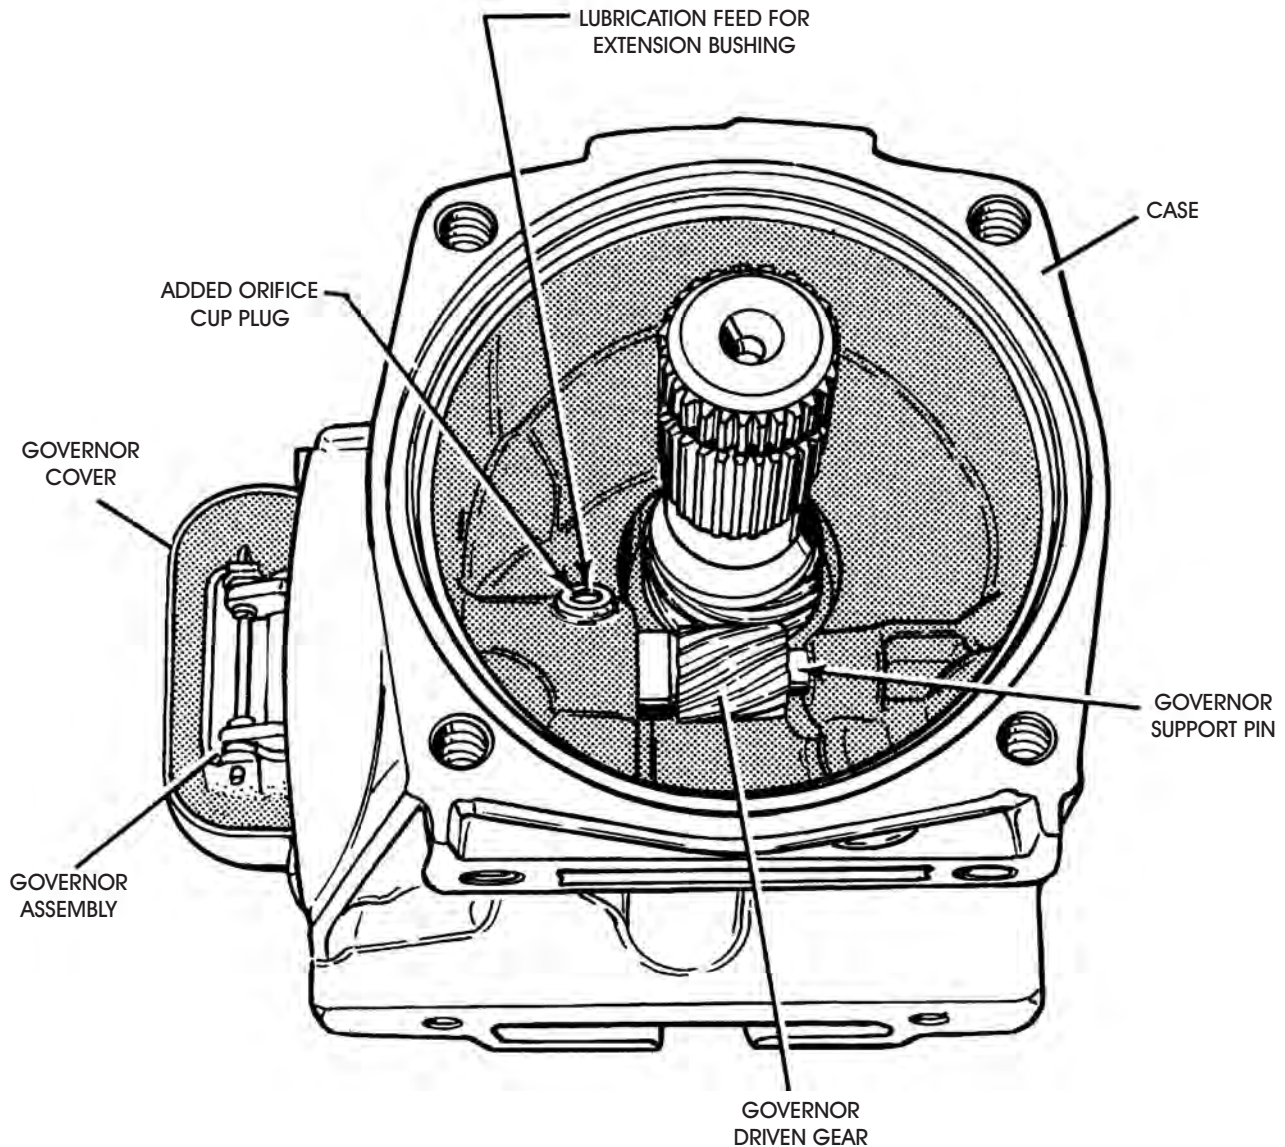

Figure 21
- (3) **TRANSMISSION CASE** - Orifice cup plug added in the governor bore which now provides lubrication to the extension housing bushing, when the speed sensor rotor is used. Refer to Figure 21. This lube was normally provided by the spinning speedometer driven gear teeth tossing oil to the bushing. When the speedo gear is replaced with a speed sensor rotor, the forced lube from the orifice cup plug is required (See Figure 21).